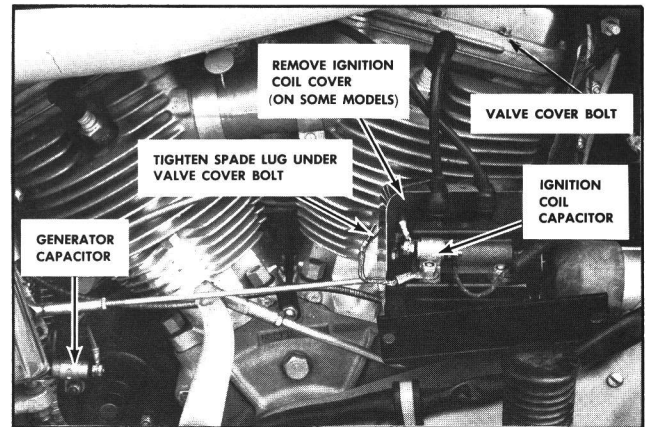

FIGURE 8 — NOISE SUPPRESSION KIT INSTALLATION
1. Mount 0.5 uf feed-thru capacitor to generator as close as possible to armature terminal (Figure 8). Scrape paint off generator near mounting hole to provide a good ground.
1. Connect a ring terminal to one end of the metal braid (supplied) and mount with 0.1-uf feed-thru capacitor to an ignition coil mounting bolt or ground terminal on coil (Figure 8).